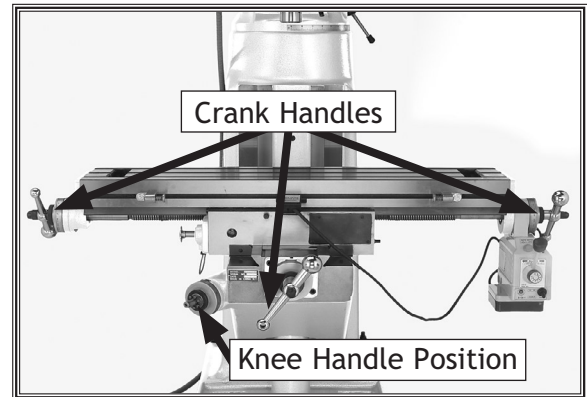

Figure 10. Handle positions.
2. Slide the knee handle onto the shaft and engage the teeth (see **Figure 10**).